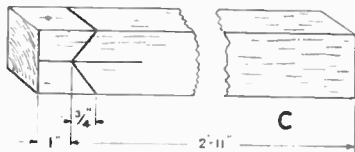

Fig. 3—Front section end shape
The same lengths are used for the rear section and the intermediate roof supports, ten pieces in all, the centre pair being made of 3ins. by 2ins. It is advisable to cut all these pieces at this stage, making the length and angles exactly the same. This will ensure a good straight roof. The piece (C) for the front section is shown as 3ft. in the cutting list. Mark out and cut as shown in Fig. 3.